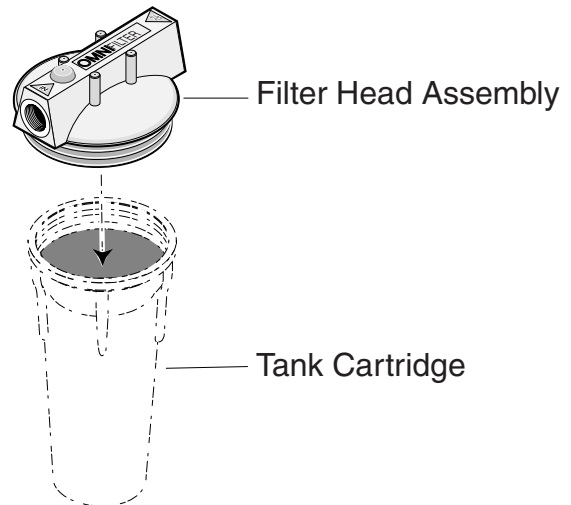

Figure 2
1. Separate the head assembly from the tank cartridge and set the tank aside. See Figure 2.